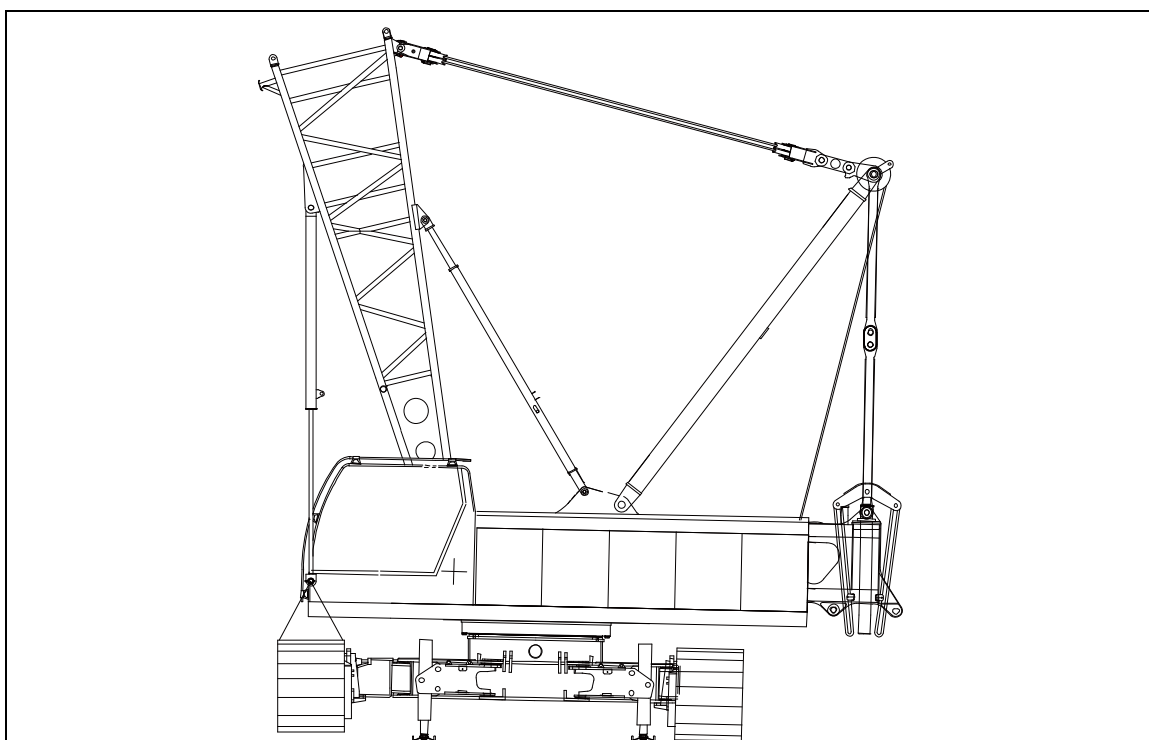

Figure 5-14 Assembly of right crawler carrier
- Confirm that left crawler carrier is in contact with the ground (see the figure 5-14). At this time, the crane is inclined slightly, and the superstructure can slew freely.